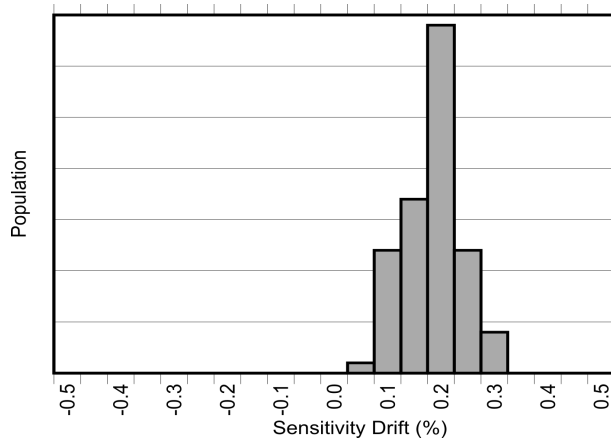
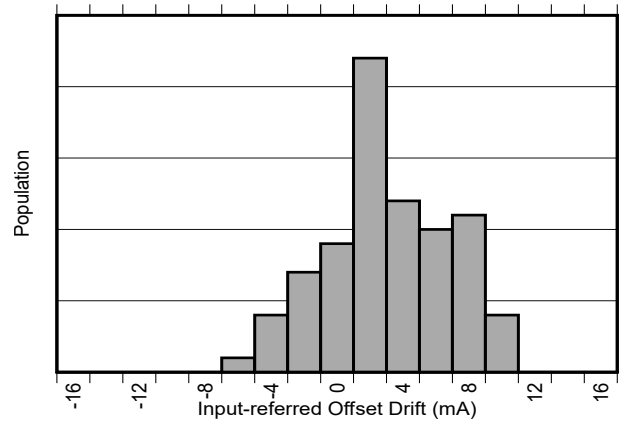

Figure 8-3. Sensitivity Error Drift After AEC-Q100 High Temperature Operating Life Stress Test
Figure 8-4. Input-Referred Offset Drift After AEC-Q100 High Temperature Operating Life Stress Test
In addition to large thermal drift, typical magnetic current sensors suffer an additional 2% to 3% drift in sensitivity due to aging over the lifetime of the device. The same proprietary compensation techniques used in the TMCS1123-Q1 to reduce temperature drift are also used to greatly reduce lifetime drift due to aging from stress and environmental conditions especially at high operating temperatures. As shown in the Electrical Characteristics, the TMCS1123-Q1 has industry leading lifetime sensitivity drift realized after Highly Accelerated Stress Tests (HAST) at 130°C and 85% relative humidity (RH) during standard three lot AEC-Q100 qualifications. Low sensitivity and offset drift within the bounds specified in the Electrical Characteristics are also observed after 1000 hour, 125°C high temperature operating life stress tests are performed as prescribed by AEC-Q100 qualifications. These tests mimic typical device lifetime operation, and show device performance variation due to aging is vastly improved compared with typical magnetic current sensors. Figure 8-3 and Figure 8-4 show the sensitivity and offset drift after a 1000 hour, 125°C high temperature operating life stress test as specified by AEC-Q100. Device operational performance varies over the lifetime of the device. This test mimics